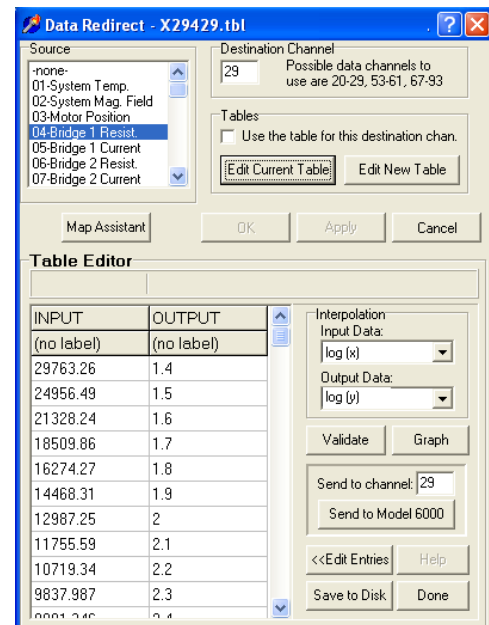

Figure 10. The Data Redirect dialog and Table Editor with a calibration table downloaded.
7. When you open the calibration table, the **Tables** utility will automatically read it into the **Table Editor** window, as shown in Figure 10.
- After you have saved the files, use the controls in the **Data Redirect** dialog (Figure 10) to download the calibration table to the Model 6000: